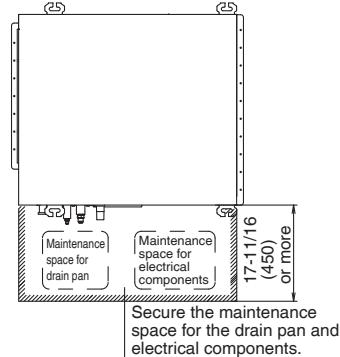
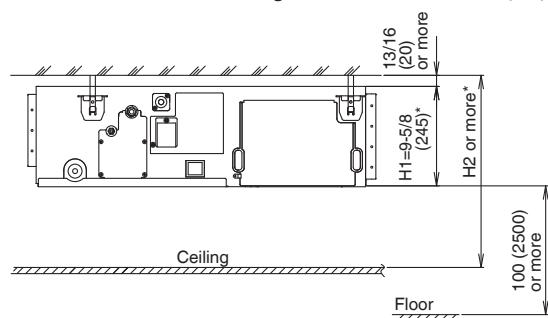

Fig. 1
Fig. 2
(1) Select the installation location that meets the following conditions and get approval of the user.
- Where a space sufficient for installation and service can be ensured. (**Refer to Fig. 1 and Fig. 2**)